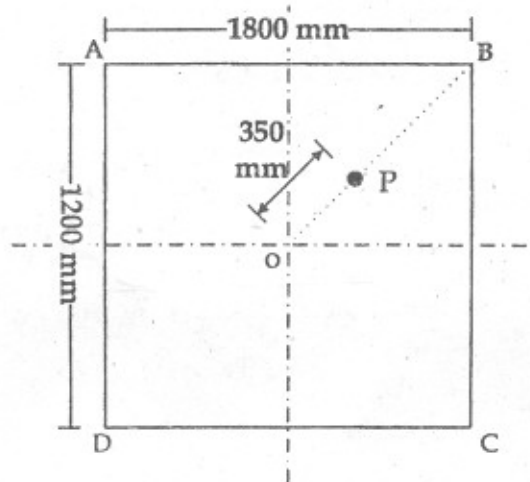

Fig. 14
- (b) The rectangular footing shown in Fig. 14 supports a load $P = 750$ kN. Neglecting the self weight of the footing, determine the stresses developed at A,B,C and D. [8]